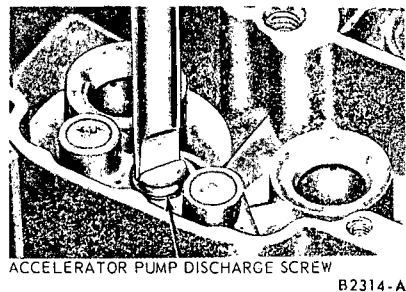

FIG. 19—Booster Venturi Removal or Installation
4. Remove the primary stage booster venturi assembly, air distribution plate and gasket (Fig. 19). Invert the main body and let the accelerating pump discharge weight and ball fall into the hand.
Position the primary booster venturi assembly and gasket in the main body. Install the air distribution plate and the retaining screw. Tighten the screw securely (Fig. 19). **The primary booster screw is hollow.**